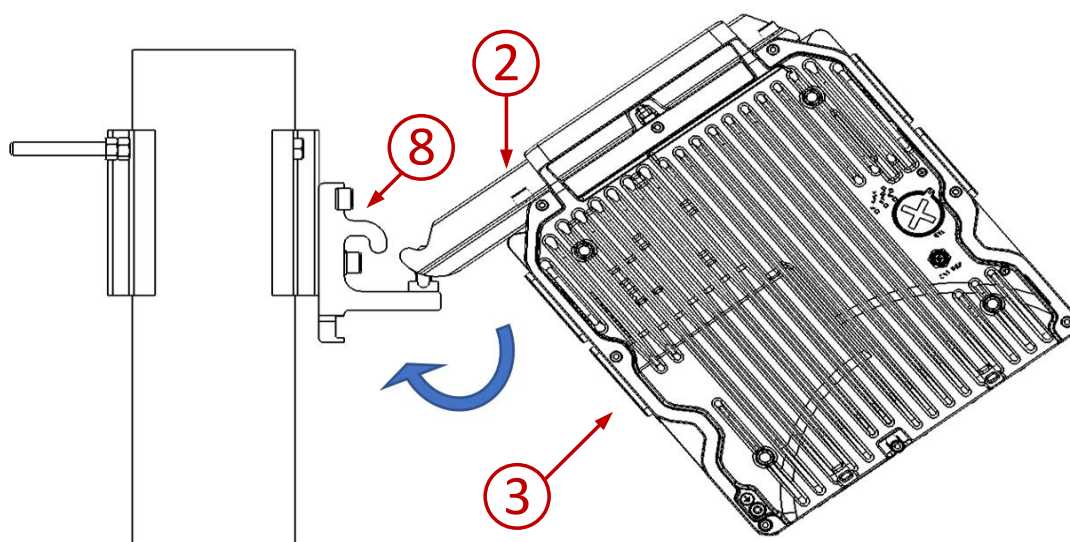
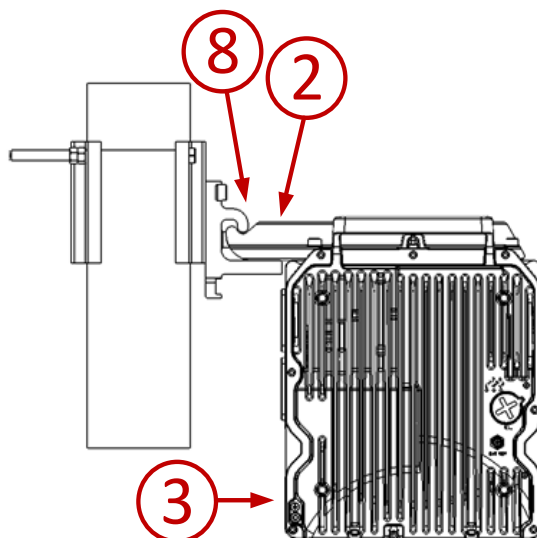

Figure 40: Angling the OCU Rail Underneath the Nose of the Branching Pole Profile
Figure 41: Final Position of OCU-Radio Locked into Branching Pole Profile
Once the OCU and radio unit have been connected, mount the complete OCU-radio unit to the Branching Pole Profile, as shown in *Figure 40* and *Figure 41*.
- 1 Angle the nose of the OCU Rail so as to hook underneath the nose of the Branching Pole Profile (*Figure 40*).
- 2 Level the OCU-radio unit so that the nose of the OCU Rail is locked underneath and inside of the nose of the Branching Pole Profile (*Figure 41*).